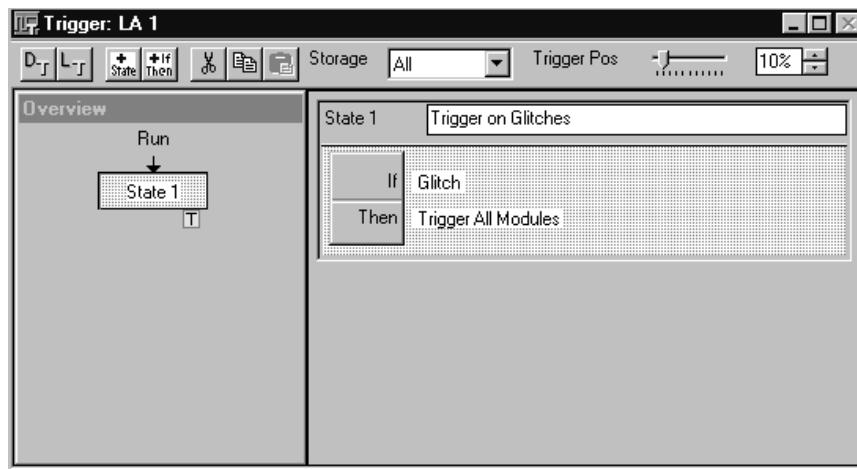

Figure A-3: Trigger window setups
9. Click OK to close the State 1 Definition dialog box. The Trigger window should look similar to Figure A-3.